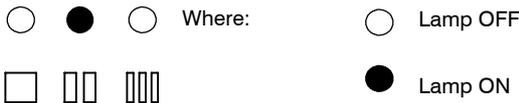

Fig. 9
- 11 Press the reset button D once until the lamps F give the indication as in Fig. 9 (useful output, second step).